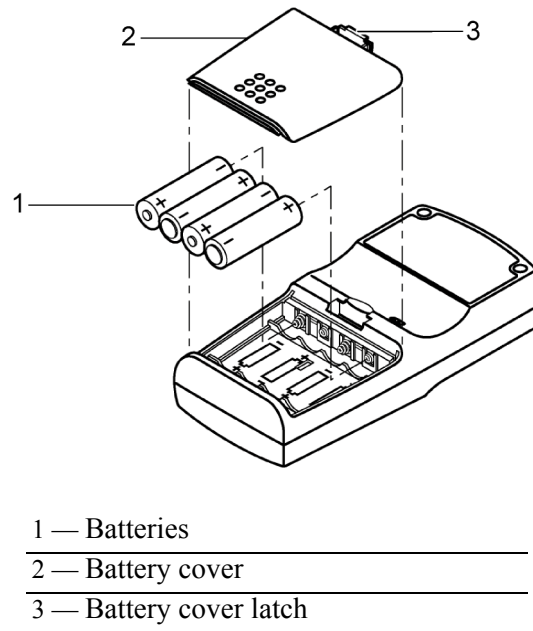

**Figure 12: Installing The Case Screws**
**Note:** The longer screws install at the top of the case. See Figure 12, items 1 and 4.
8. Align the front and rear cases. See Figure 12.
9. Install the four screws (Figure 12, items 1 through 4).